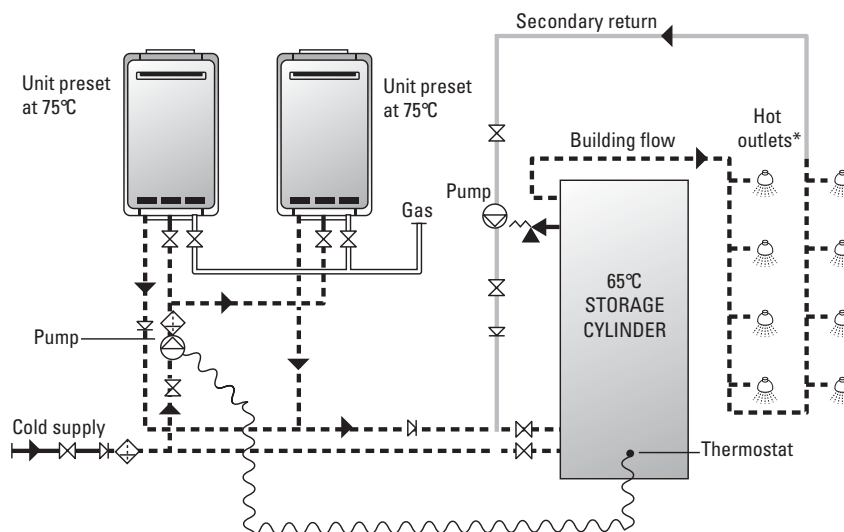

Figure 8.3 Inlet and Outlet Pipework to achieve a Balanced Storage Back up System
- A. In Figure 8.3, place a ruler on the 0.1 L/sec mark on the bottom of the chart and measure up to cross the sloping line for the 16 mm pipe. From this point draw a horizontal line to the line left hand side of the chart. This gives a head loss of 0.8 kPa/metre of pipe length. Multiply this value by the length of the total pipe to give the total head loss in the pipeline in kPa. The velocity of flow in the pipe is approximately 0.9 metres/sec.